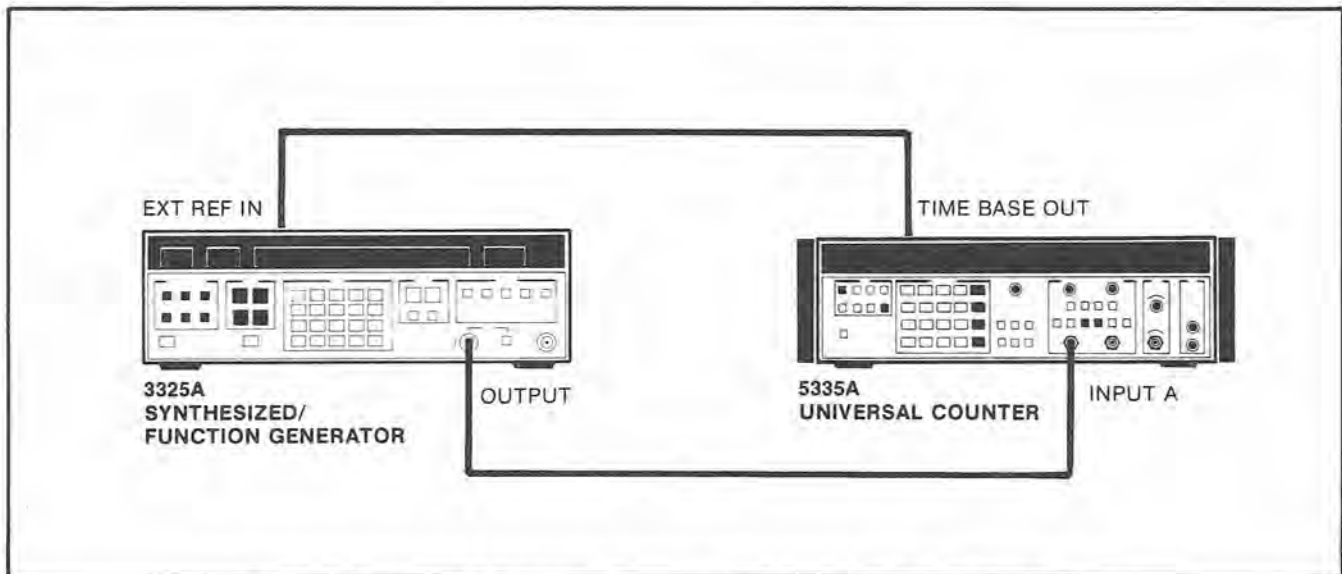

Figure 4-7. Channel A Frequency Response and Sensitivity Test Setup (20 MHz)
level, and the 5335A reading is checked for the proper count. For the range of 20 MHz to 200 MHz, a different generator is used. Connect test equipment as shown in *Figure 4-7*.
b. Connect the 3325A Synthesizer/Function Generator to the 5335A INPUT A as in *Figure 4-7*.